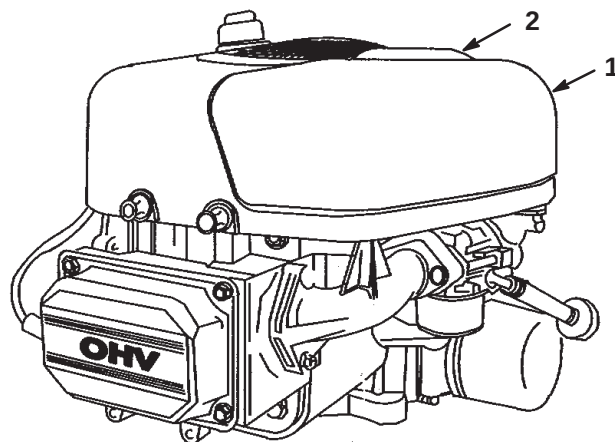

Figure 19
- Clean around the air cleaner to prevent dirt from getting into the engine and causing damage. Pull up on the air cleaner cover handle and rotate it toward the engine (Fig. 19). Remove the air cleaner cover.